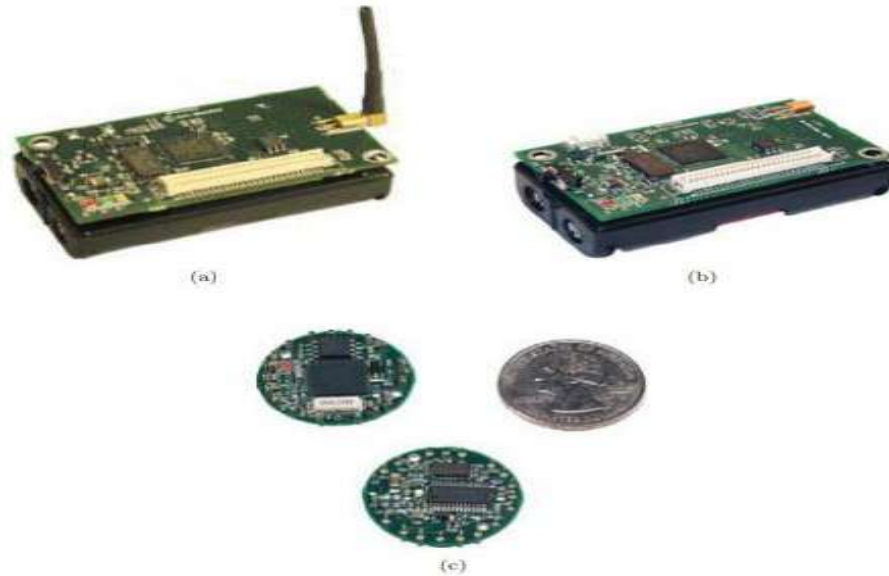

Figure 5.1 Berkeley Mote processor boards: (a) MicaZ, (b) Mica2, and (c) Mica2dot.
- The main advantages are small physical size, low cost, modest power consumption, and diversity in design and usage. The latest versions of the Berkeley Mote include the MicaZ, Mica2, and Mica2dot processor boards (Fig. 5.1). The Motes have